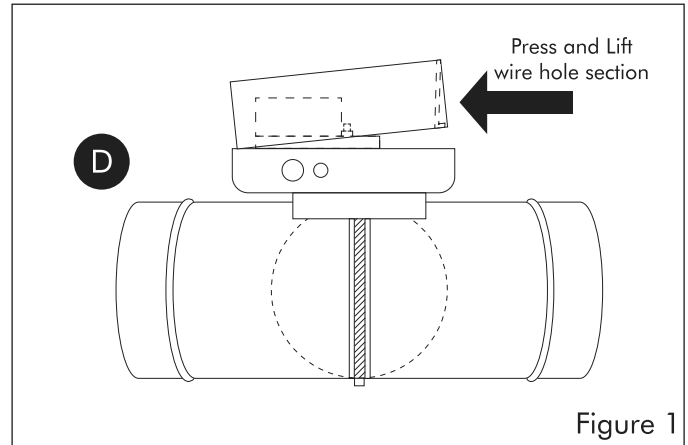

Figure 1
1. Press and lift wire hole section of the motor cover (see figure 1).